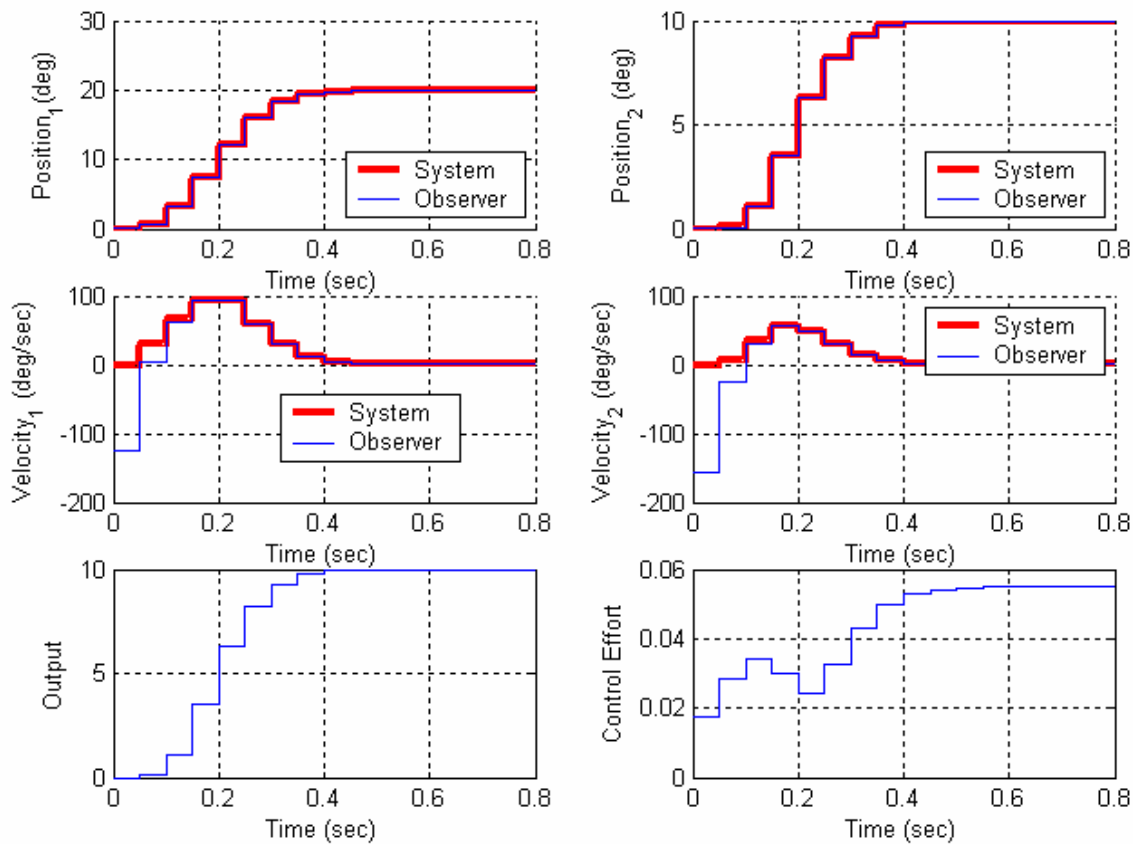

Figure 3: Results for problem 2c.
0.08, 0.1, and 0.12 (you'll need to use the **place** command.) You should get the results shown in Figure 3. Turn in your plot.